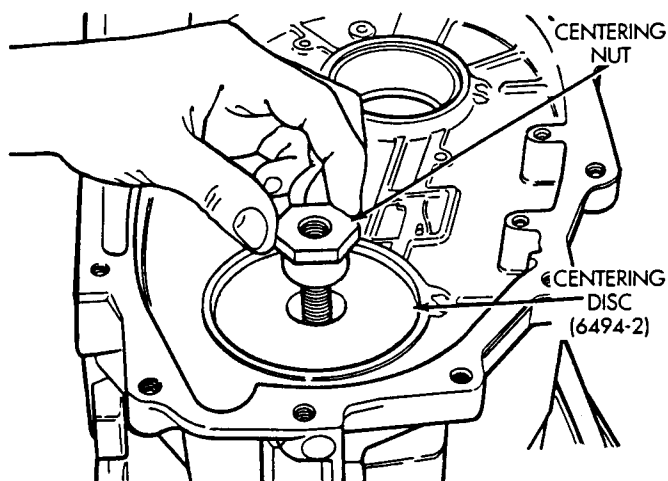

Fig. 6 Installing Centering Nut
(6) Install centering nut as shown in figure 6.